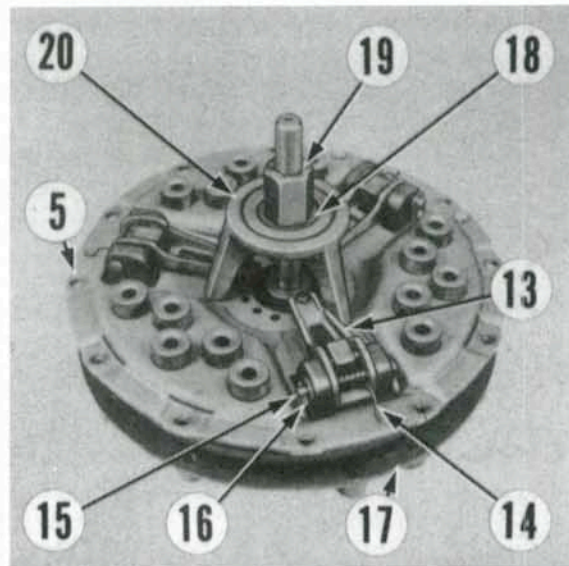

Fig. 181—Clutch fixture tool (No. 2142) is used in disassembly and assembly of clutch.
To disassemble clutch, place pressure plate and cover on clutch tool fixture as shown in Fig. 181. Tighten spindle nut (19) to compress clutch springs until release lever clevis pins (15) can be removed.